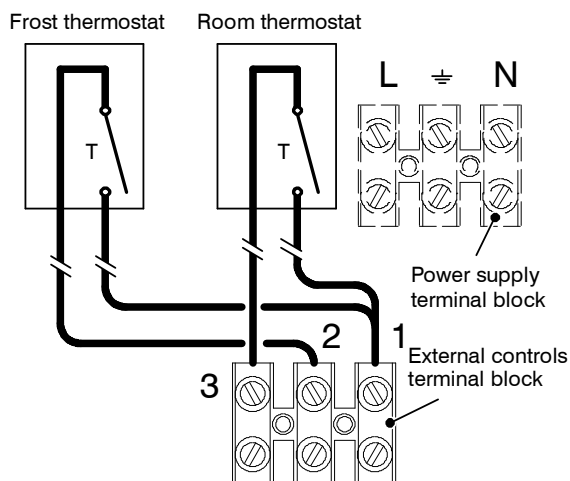

Fig. 6.15
- 10 Connect the frost thermostat between terminals 1 and 2 as shown in Fig. 6.15. **Do not connect live wires to terminals to which the room thermostat must be connected.**